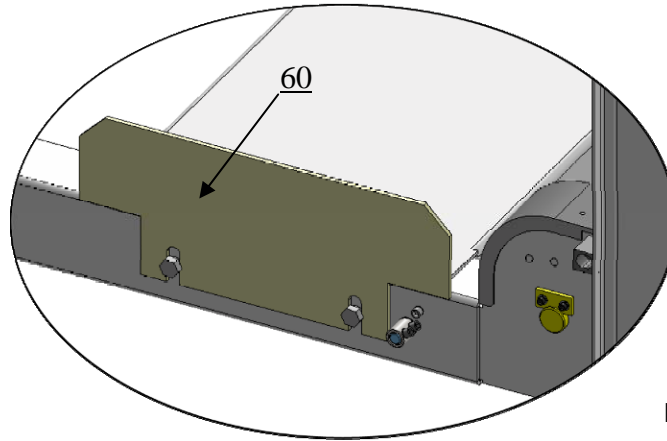

Fig. 26
N. Install rear wheel stop plates (See Fig. 26)